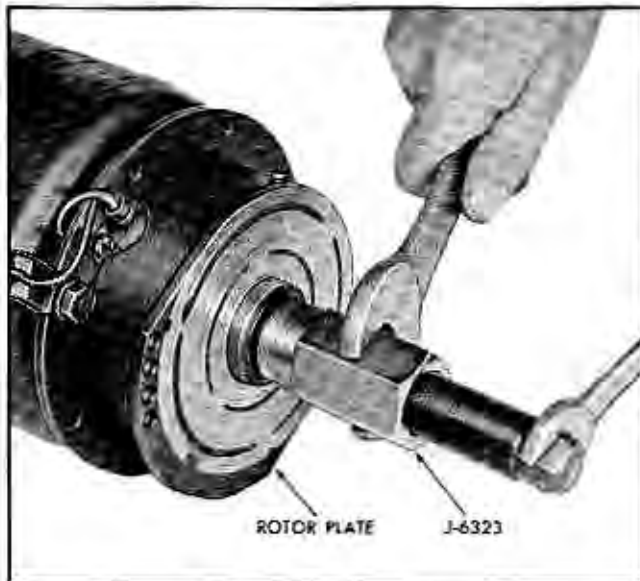

Fig. 6-65 Installing Rotor Plate
2. Position rotor plate on shaft, indexing the hub of the assembly with the Woodruff key and install with J-6323-01 Compressor Clutch Plate and Pulley Installer or J-6323 and J-6323-5 Adapter (Fig. 6-65). Position the tool spacer onto the threaded stud of the tool so the tapered end of the spacer faces the rotor plate. Thread the stud of J-6323-01 onto the end of the compressor shaft and holding this stud with an open end wrench to prevent the compressor from turning, complete the installation of the rotor plate by turning the large hex nut until the rotor plate is firmly seated against the selective spacers.